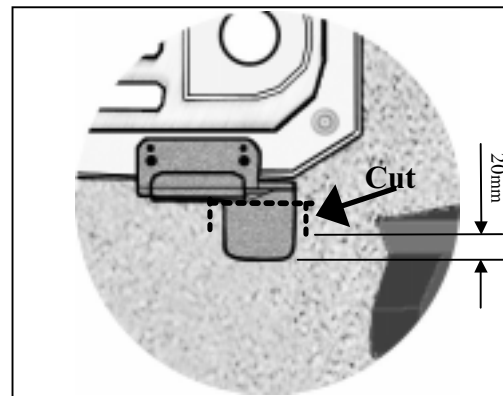

Figure F2
-   2. Using a razor knife, cut the carpet and foam padding as indicated by dashed line in Figure F2.